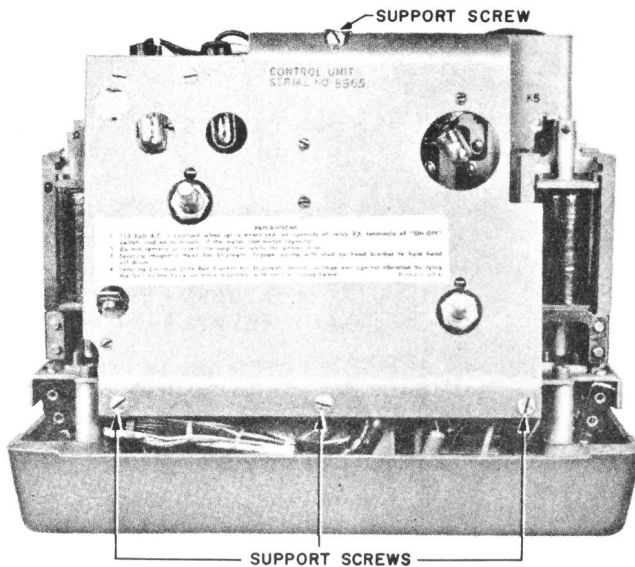

Fig. 7 - Control Panel Support Screws
- 1.10 The control panel is held in place by four captive screws in front of set (Fig. 7).